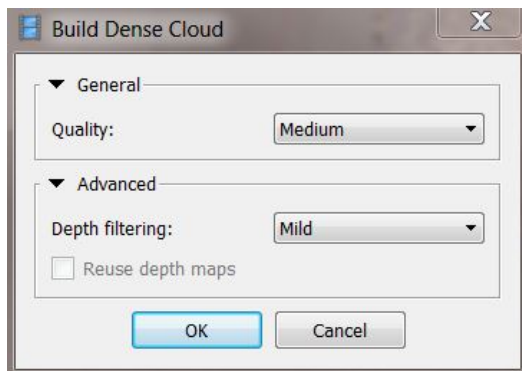

Figure 18. 'Build Dense Cloud' menu in Agisoft Metashape displaying settings for building the medium dense point cloud.
4. Click Workflow → Build Dense Cloud (Figure 18)